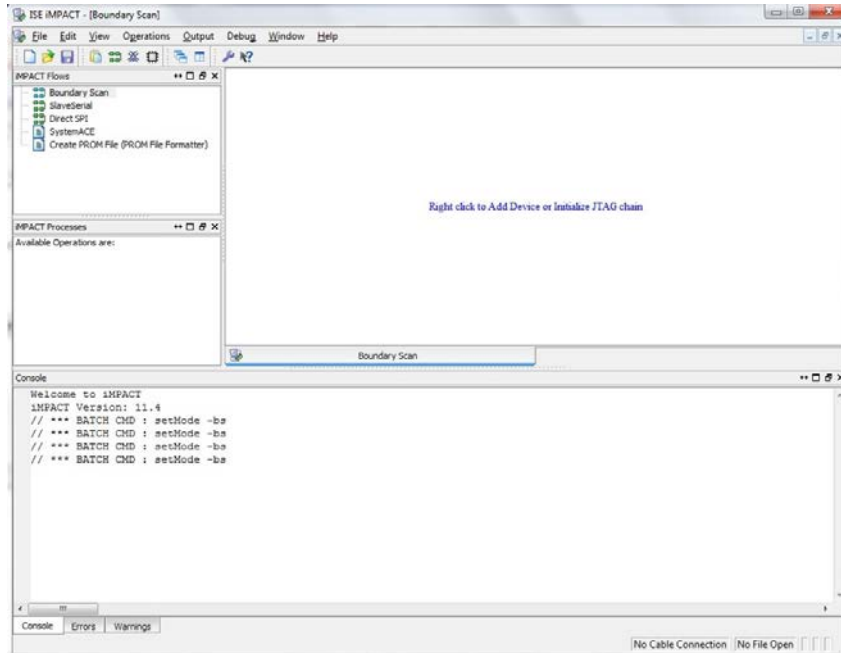

Figure 47: Example iMPACT Boundary Scan
Tip: For the location of connectors and jumpers on the MVX-A16 card, see **Figure 47: MVX-A16 card: J1, CON7.**
4. Connect the MVX serial cable (CAB-MVX-48Z) to the **CON7** connector on the MVX-A16 card and to the PC (see **Figure 47: MVX-A16 card: J1, CON7**).
3. Connect the 14way IDC header to **CON12** (see **Figure 47: MVX-A16 card: J1, CON7**).